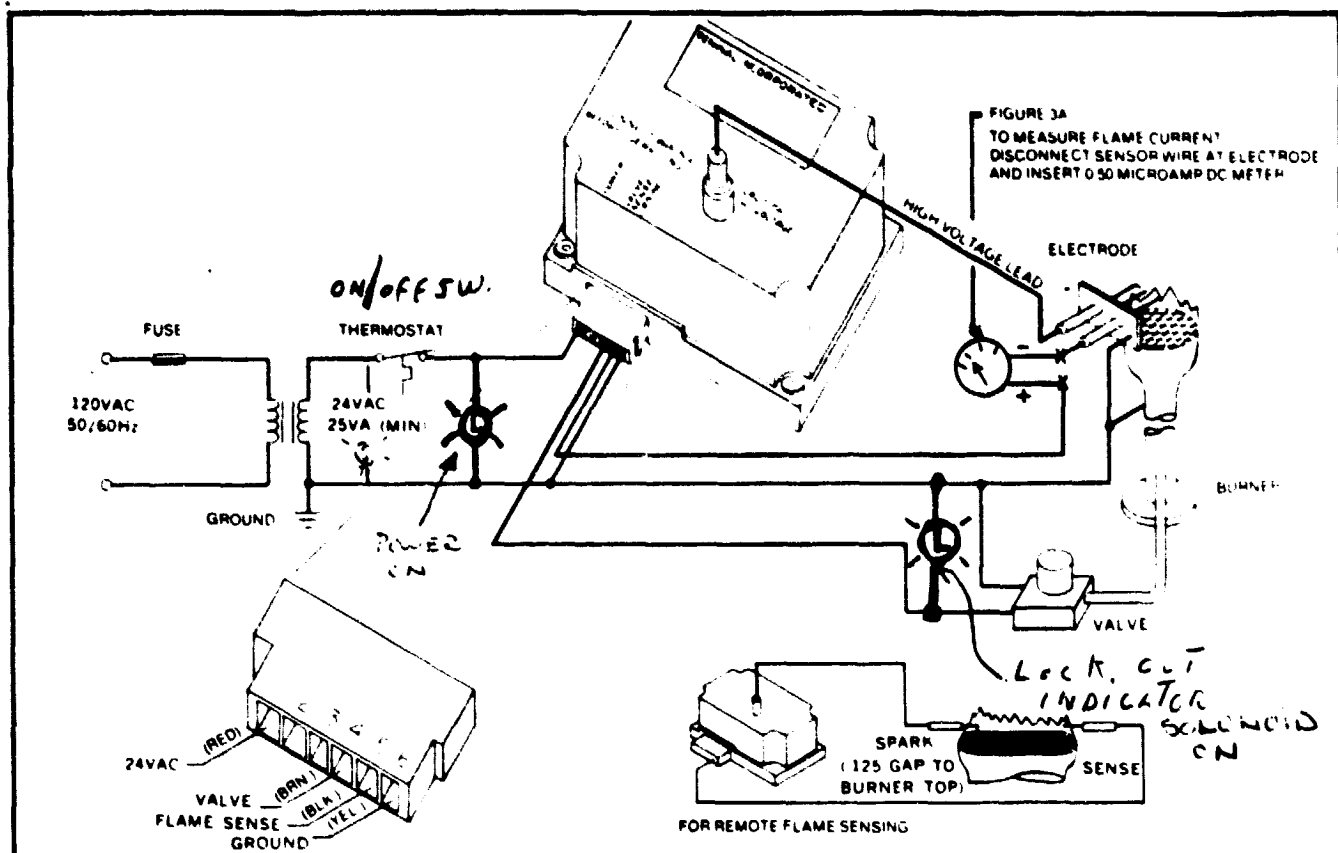

FIGURE 3
Be sure that input is polarized as shown in Figure 3 and the installation is electrically grounded.
6. If system ignites but fails to hold in, check for 5 microamp minimum flame sense current and check to assure the system is properly grounded per Figure 3.